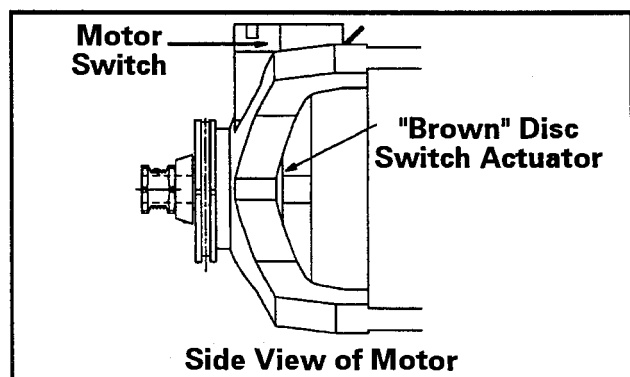

Figure 2-5
3. With your thumbs, depress the BROWN disc located behind the motor switch on the motor shaft, (See Figure 2-5). The BROWN disc actuates the lever of the motor switch when the motor is at rest. At optimum motor speed, the disc moves away from the switch lever. When the disc is pressed inward toward the windings, the actuator arm of the centrifugal switch will be relaxed. This allows the contacts to close, completing the heater circuit. If no continuity is found when the disc is depressed, change the centrifugal switch.